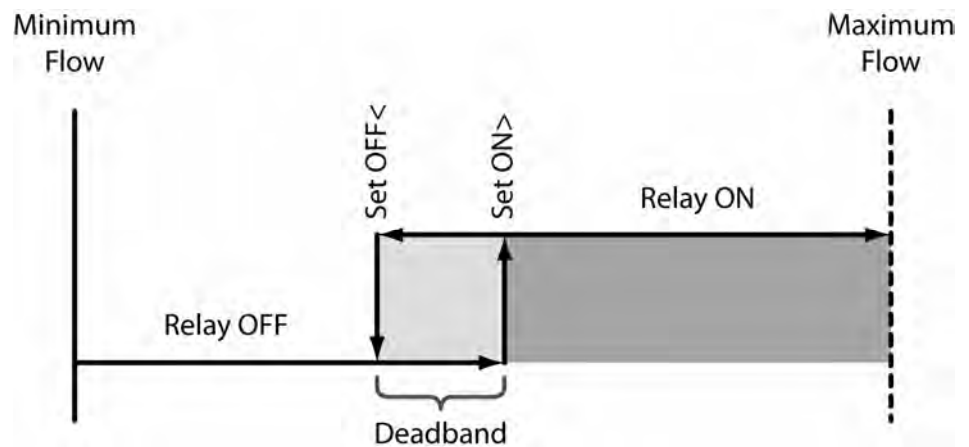

Figure 4.8
- **Flow Rate Relay** configuration permits relay changeover at two separate flow rates allowing operation with an adjustable switch deadband. **Figure 4.8** on page 4.13 illustrates how the setting of the two set points influences Rate Alarm operation.